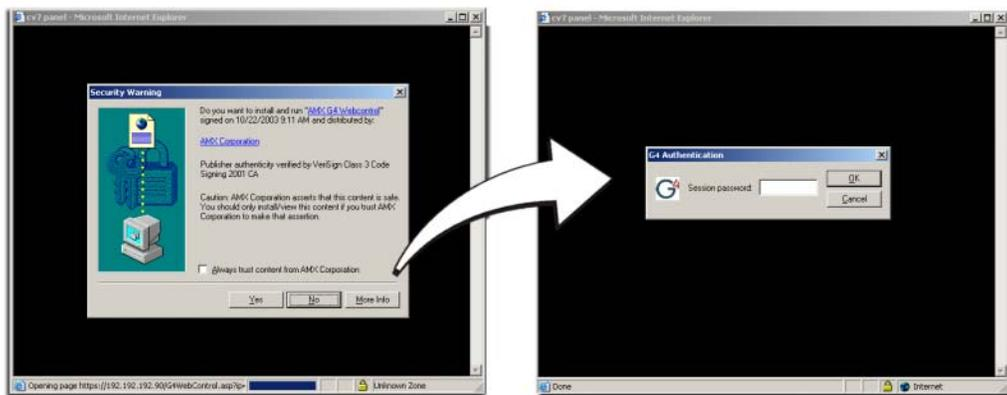

FIG. 68 Web Control VNC installation and Password entry screens
5. Click on the G4 panel name link associated with the target panel. A secondary web browser window then appears on the screen (FIG. 68).
- If a Web Control password was setup on the G4 Web Control page, a G4 Authentication Session password dialog box (FIG. 68) appears on the screen within the secondary browser window.
- Enter the Web Control session password into the Session password field (FIG. 68). *This password was previously entered into the Web Control Password field within the G4 Web Control page on the panel.*